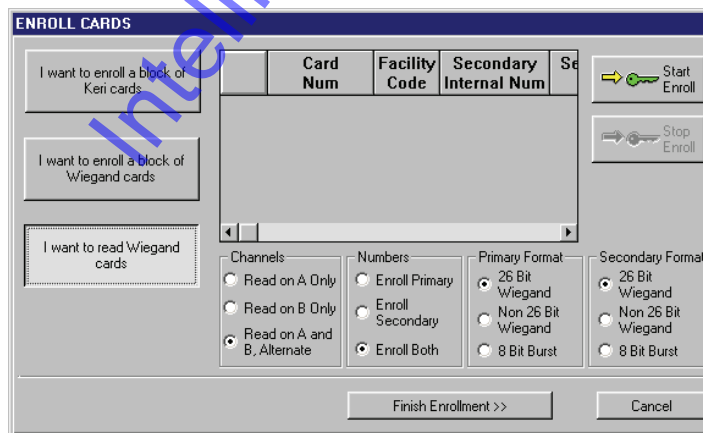

Figure 14-14: Enroll Cards - Presentation to a Reader
- Click on the  button. If the Doors program is not connected to the access control network, the program will automatically connect. The Enroll Cards window appears. Click on the  button. The Enroll Cards window is ready for enrollment of Wiegand cards by presenting to a reader (see Figure 14-14).